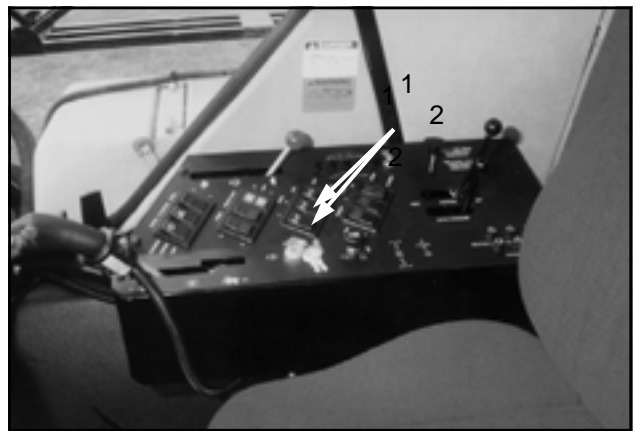

FIG 5.15
**HORIZONTAL BOOM FOLD** - To fold either boom horizontally in toward the machine or out away from the machine, depress the “IN” or “OUT” of either or both “BOOM FOLD” switches (fig. 5.15, items 1 & 2). While depressed, these switches activate cylinders connecting either boom breakaway mount to the transom (fig. 5.14).